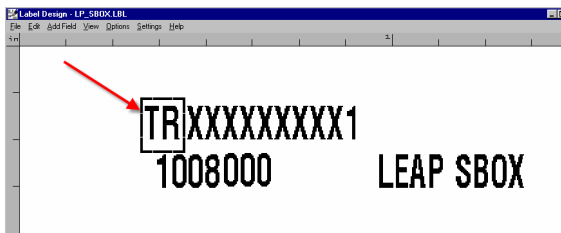
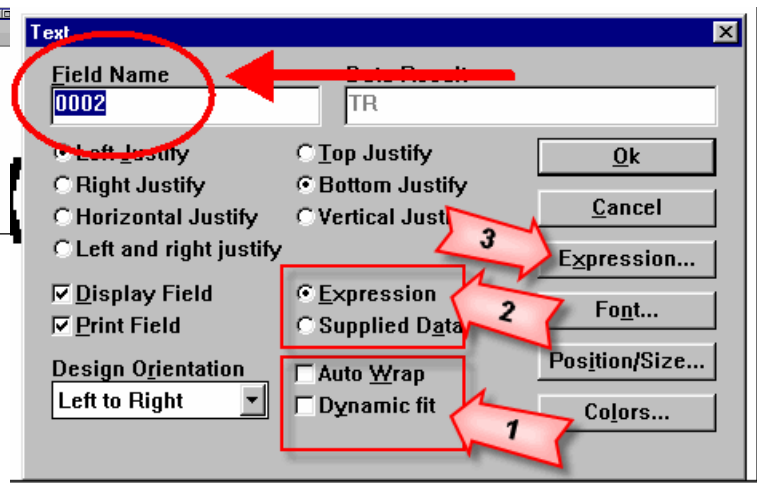

Figure 1-18a
Figure 1-18b
1.20. Double-click on the **TR**. (Figure 1-18a) That will open the field properties dialog box. (Figure 1-18b)
1.20.1. Note that the **Field Name** in Figure 1-18b is **0002**. There is nothing wrong with this kind of name as long as you remember which field is which. We recommend that you give fields meaningful names. This will help you in the long run.
1.20.2. Look at the two options called out by Figure 1-18b Arrow 1. There are three valid choices for migration. They are:
1.20.3. Look at the two options called out by Figure 1-18b Arrow 2. The option checked at Arrow 2 will determine what the button called out by Arrow 3 does.
1.21. Click the button called out by Figure 1-18b Arrow 3.